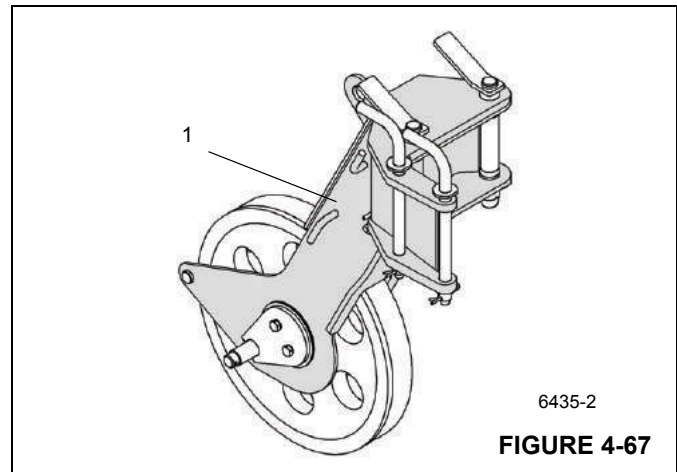

FIGURE 4-67
The serial number (1) is on a plate, in the front on the auxiliary single-sheave boom nose (Figure 4-67).